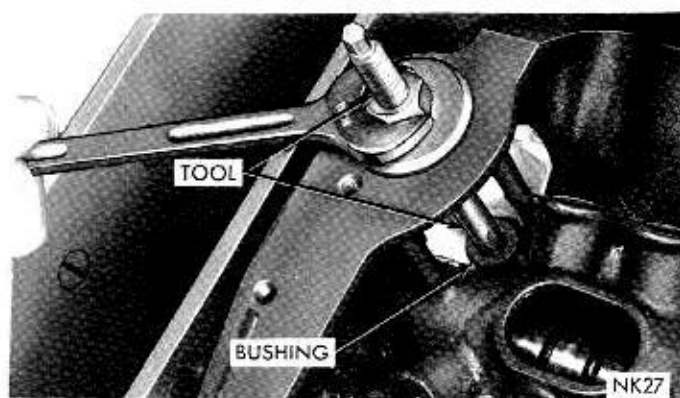

Fig. 31—Removing Distributor Drive Shaft Bushing
(1) Insert Tool C-3052 into old bushing and thread down until a tight fit is obtained, (Fig. 31).
(2) Hold puller screw and tighten puller nut until bushing is removed.